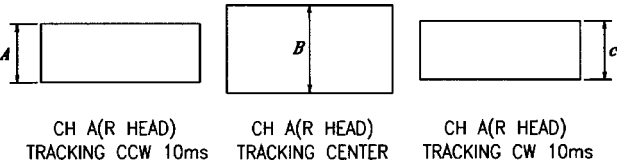

Fig. 19 X-Axis Adjustment
6. Using a flat blade screwdriver, adjust the X-Axis Position Point by turning Adjust Boss so that the envelope waveform is as shown in Fig. 19 when the VR Control on the Path Adj. Fixture is turned fully CCW or CW.